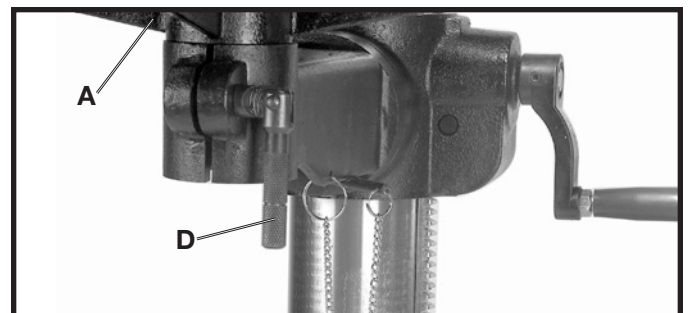

Fig. 23
2. The table (A) Fig. 23, can be rotated 360 degrees on the table bracket by loosening lock handle (D).